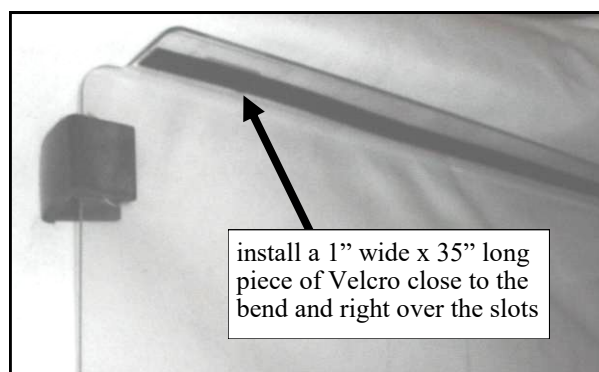
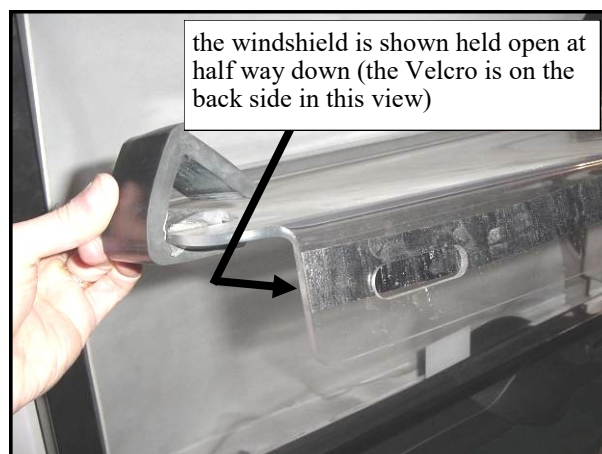

Fig. 7.1 (view taken from front of passenger's side)
Fig. 7.1.1 (view taken from front of passenger's side)
7.1 Reminder: adhesive backed velcro should be applied to a clean, dry surface at room temperature for best adhesion. Per the important cleaning information located on page 18, never use an alcohol-based product for cleaning acrylic windshields. Do not use Windex, Glass Plus, Fantastic, etc.. Use of these products will result in deterioration of the acrylic. Per fig. 7.1, install a 35" long piece of velcro to the bottom side of the narrow bent portion of the upper windshield as shown. Place it close to the bend and right over the long, oval slots. Fig. 7.1.1 shows the windshield in a different orientation (semi-open). On the driver's side, there is a large radius cutout. At the installer's discretion, the velcro can be cut to match the radius or left unaltered (full width).